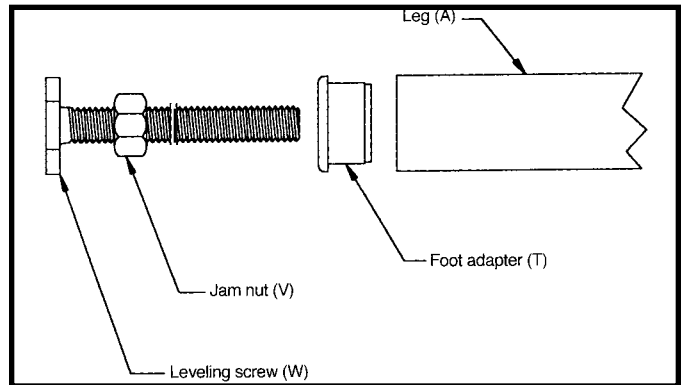

Fig. 39
5. Insert foot adapter (T) Fig. 39, into the bottom of each leg (A), using a rubber mallet. Assemble the 3/8" jam nut (V) approximately 3/4 of the way onto leveling screw (W). Thread the leveling screw (W) into foot adapter. Fig. 40 illustrates the foot leveling assembly on the table leg. Assemble the remaining foot assembly to the other table leg in the same manner. **NOTE:** Height adjustments can be made later.